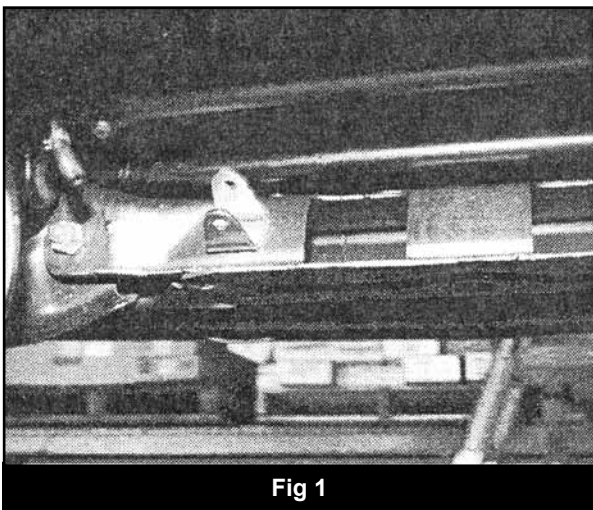

Fig 1
4. Drill two holes 21/64" using the bracket as a guide. Attach the bracket to the crossmember using the 5/16"x1" bolts, nuts and washers. Torque to 15 ft-lbs. (Fig. 1)